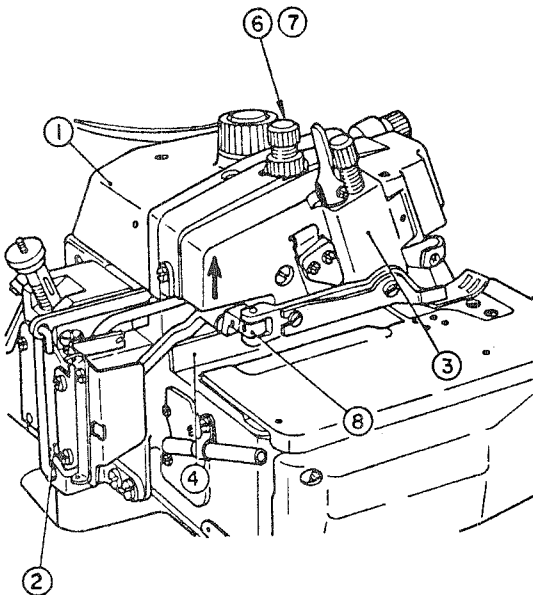

Fig. 1-1
a) Remove the following parts from the machine (Fig. 1-1, 1-2):
- ① Frame cover
- ② Cover
- ③ Side cover
- ④ Side cover (A)
- ⑤ Holder
- ⑥ Adjusting screw (B)
- ⑦ Top feed presser bar
- ⑧ Presser foot shaft
- ⑨ Hinge screw in the top feed link (B)
- ⑩ Variable top feed bar assembly (arm and top feed link (B))
- ④ Set presser foot shaft ⑧ (Fig. 1-1) temporarily. (Ensure that the variable top feed bar (asm.) moves smoothly.)
- ⑦ Attach top feed presser bar ⑦ and adjusting screw (B) ⑥ (Fig. 1-1) (Move the top feed presser bar up and down by hand to ensure its smooth motion.)
- ⑧ Fix side cover (A) ④ (Fig. 1-1).
- ⑨ Fix side cover ③ (Fig. 1-1) (Apply sealing substance to the bottom surface of the cover and attach it in place by lifting the arrowed section as shown in Fig. 1-1).
- ⑩ Attach presser foot shaft ⑧ (Fig. 1-1) (Adjust the height of the presser foot.)
- ⑪ Fix cover ② (Fig. 1-1). (Set it in the way that the oil felt rests in the oil hole in the top feed link (B).)
- ⑫ Attach frame cover ① (Fig. 1-1).